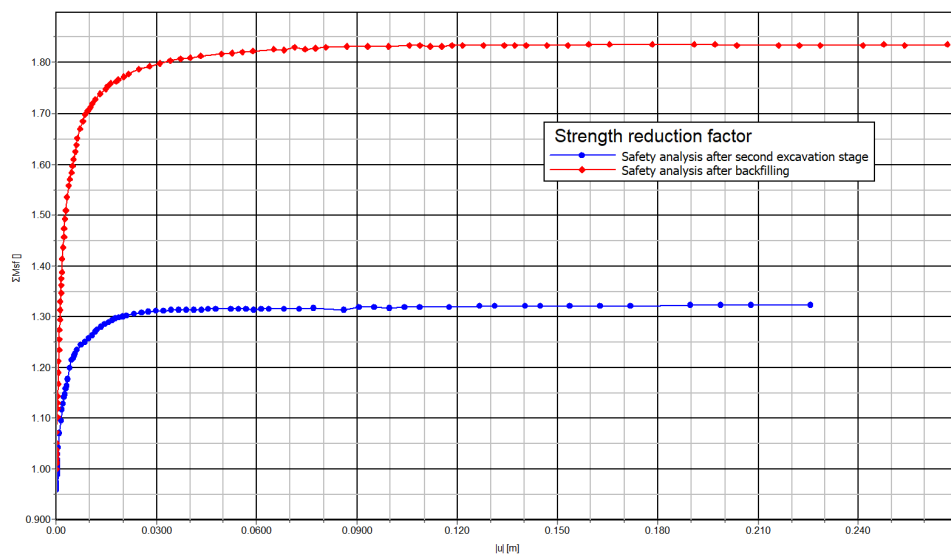

Figure 4–21: Evaluation of safety factor
- 15 Click **Apply** to update the chart according to the changes made and click **OK** to close the Settings window. The plot is shown in Figure 4–21 \(p. 90\).